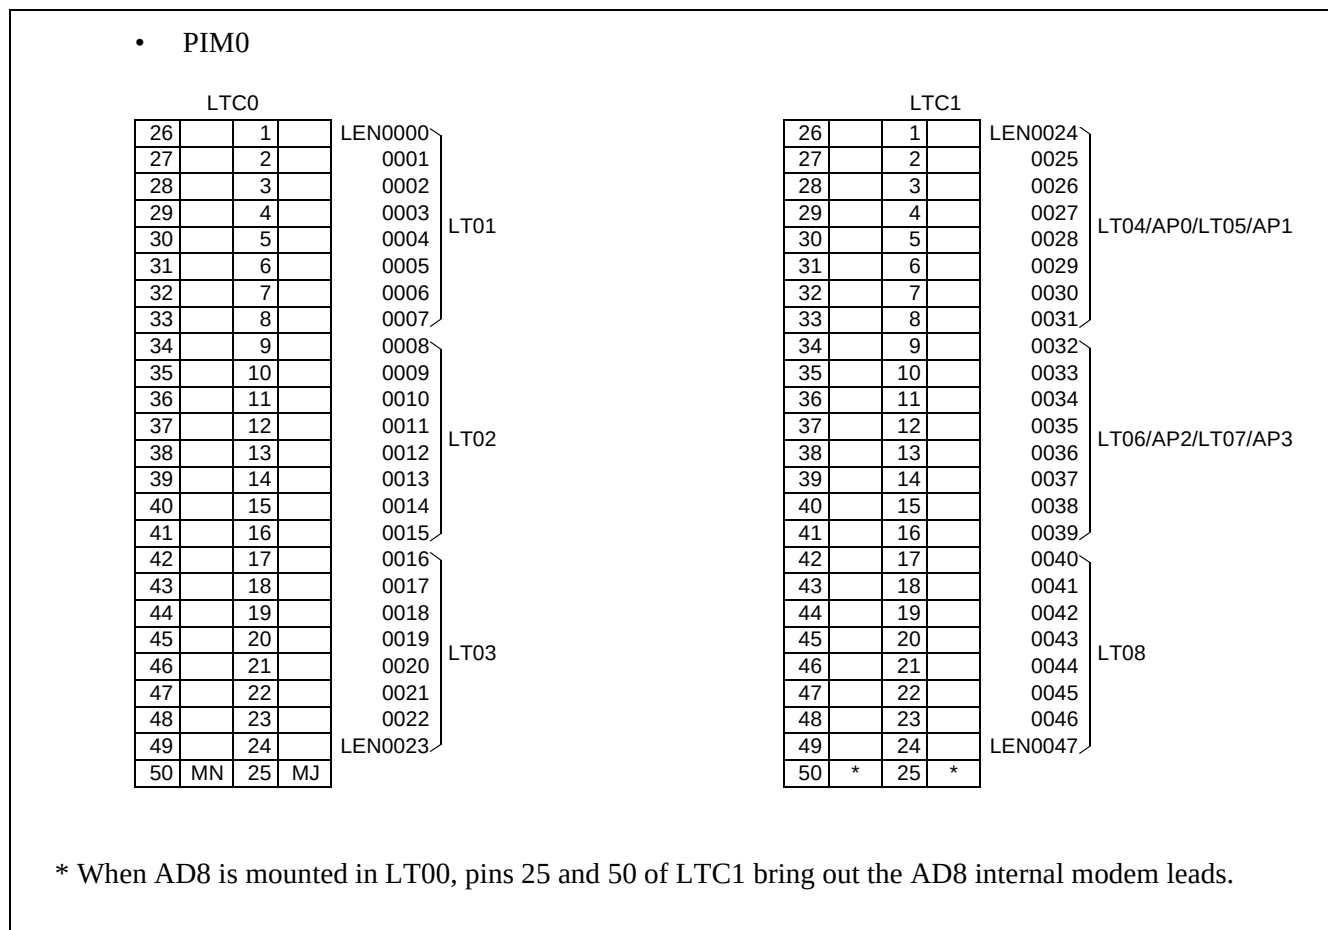

Figure 007-3 LTC Connector Pin Arrangement
(3) Figure 007-3 shows the LTC connector pin arrangement.